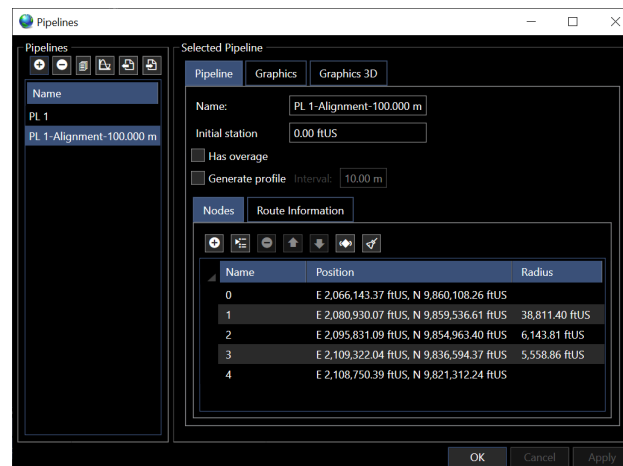

FIGURE 9-19 PIPELINES - CREATE ALIGNMENT – ALIGNMENT ADDED
5. A new pipeline will be generated with the name of the base pipeline with the “-Alignment-X u” where X is the mid ordinate distance used and u is the units with curves added to the nodes (see Figure 9-19)